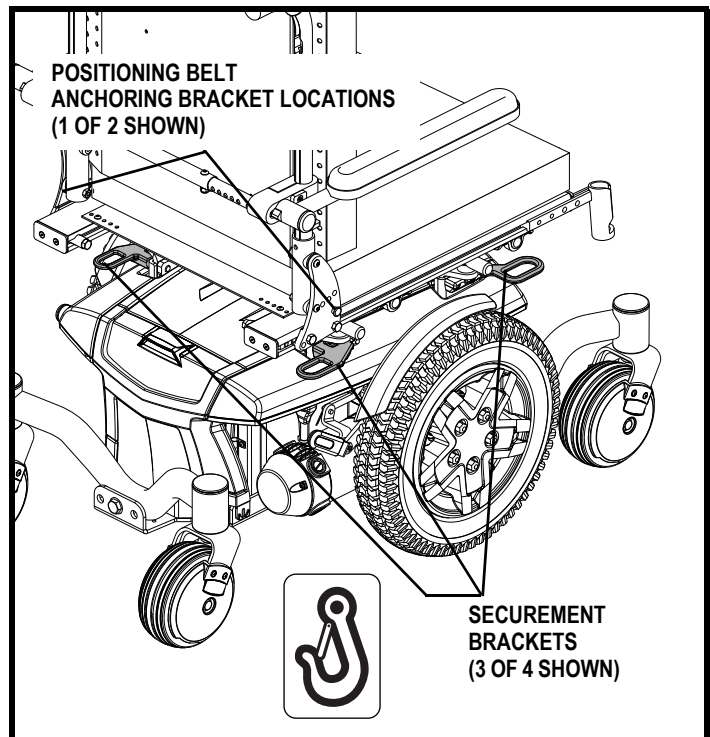

Figure 11. Transit System Securement Brackets (Synergy Seat Shown)
- Attach the four tie-down straps only to designated, labeled transit securement points indicated by anchor symbols on the power chair. See figures 11 and 12. Tighten the straps to sufficiently remove all slack.